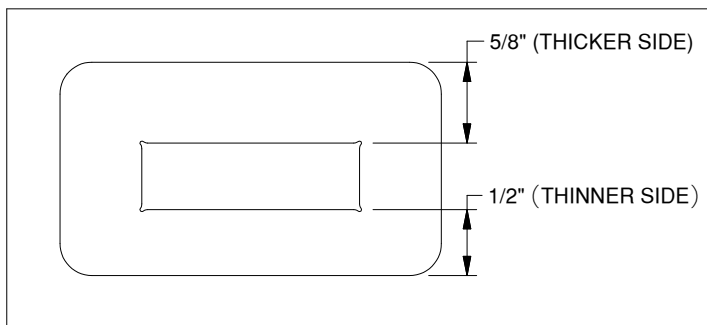

Figure B1: Spacer block.
1. **Identify spacer block orientation:** The spacer block has two different thicknesses on each side of the slot. Ensure that the **thinner side** is positioned between the shank and the clamp block **when using a 2" or 3" receiver hitch**, and use the **thicker side** **when using a 2-1/2" receiver**, see Figure B1.